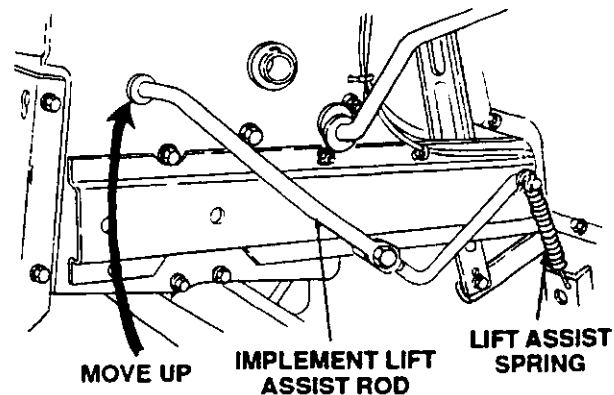

Figure 29
5. Releasing tension on the spring, allow each lift assist rod to rise upward (outside the tractor frame) to its highest position. (Refer to Figure 29.)